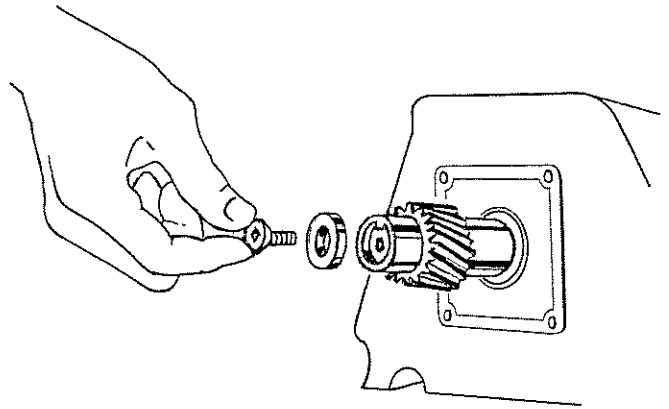

Figure 4.
3) Insert 7/16" -20 X 1" flat head cap screw through the countersunk washer so that screw head is flush with washer surface. Apply non-hardening thread locking compound to bolt threads. Insert bolt/washer assembly into the engine crankshaft. (Figure 4). Tighten to a torque of 50-55 ft./lbs.